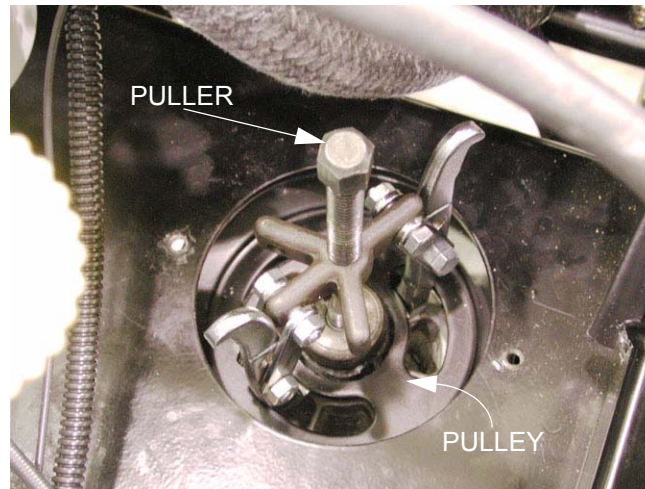

Figure 5.10
- 5.10. Use a small two-jaw puller to remove the pulley from the tapered and keyed input shaft of the hydro pump. See Figure 5.10.